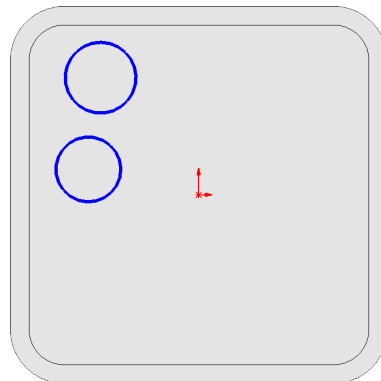

Fig. 16
Step 3. Click **Circle**  (S) on the Sketch toolbar.
Step 4. Sketch **two circles left of Origin** , **Fig. 16**.